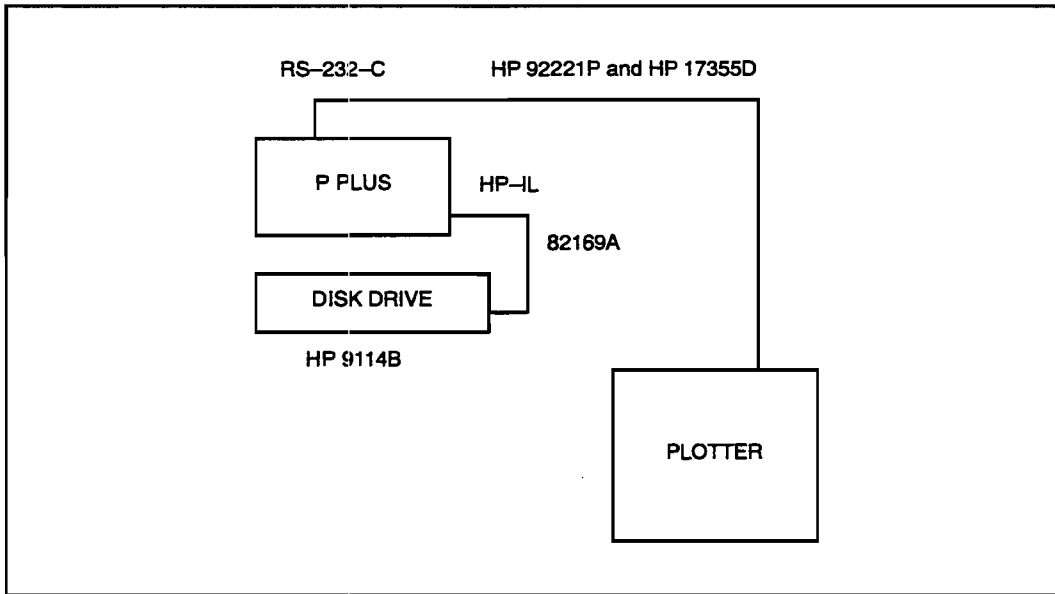

Figure 8-6. Demo Plot Setup
4. Connect the Portable PLUS as shown in Figure 8-6.